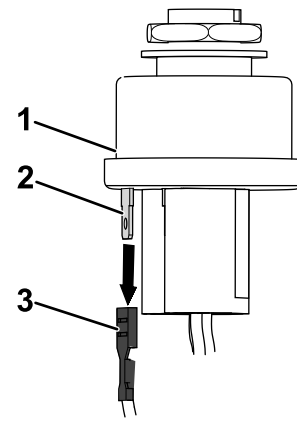

Figure 16
1. Disconnect the spade terminal of the machine wire harness from Terminal C of the key switch (Figure 16).